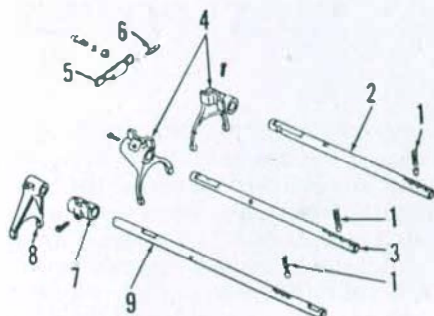

Fig. 146—Exploded view of transmission shifter rails, forks and associated parts typical of Multi-Power (12-speed) models.
transmission from differential housing, using paragraph 145 as a guide. It is not necessary to separate transmission from engine. Unwire and remove the set screws retaining selector and shifter forks to rails. Remove detent spring and plunger assemblies (1—Fig. 146) and stop plate (5), then withdraw shifter rails and forks from transmission case. Forks (4) are interchangeable, but rails (2 and 3) are not. Rails should be installed with milled flat to top rear and selector lock grooves to center. Interlock pin (6) prevents the movement of the other rail when either selector rail is moved from the neutral position.